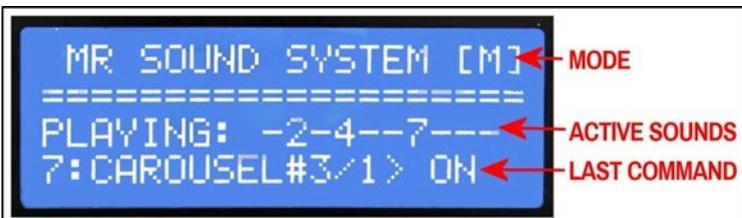

Figure 4 – Control Display Panel
The Master Control is based on an Arduino Nano microcontroller. The software (sketch) running on the micro monitors a toggle switch to determine the operating mode. When in Manual Mode a rotary encoder selects a sound file and a subsequent press on the encoder’s shaft turns the sound ON or OFF. Those sound files are also turned ON and OFF when in either a Random or Auto (scheduled) Mode. The Master Control displays the last command executed in any of the modes and shows the status of the active (ON) sounds (Figure 4).